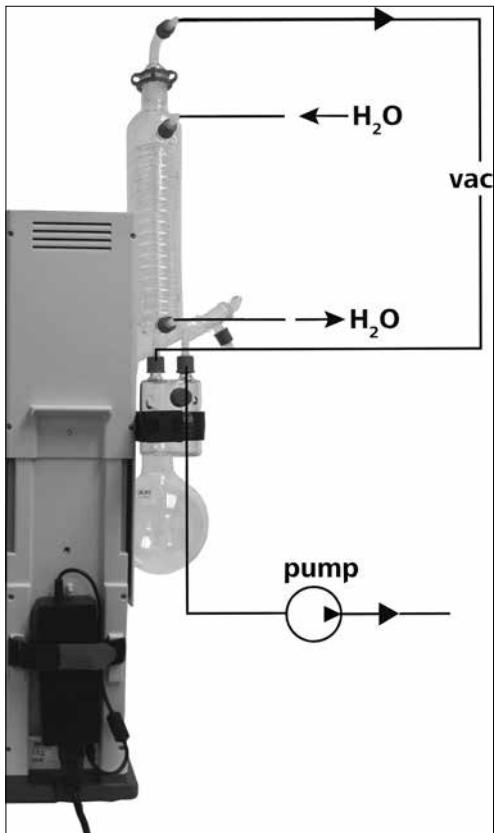

Fig. 20
- Connect the water hoses (H_2O) to the condenser according to the counter-flow principle. (Fig. 20)